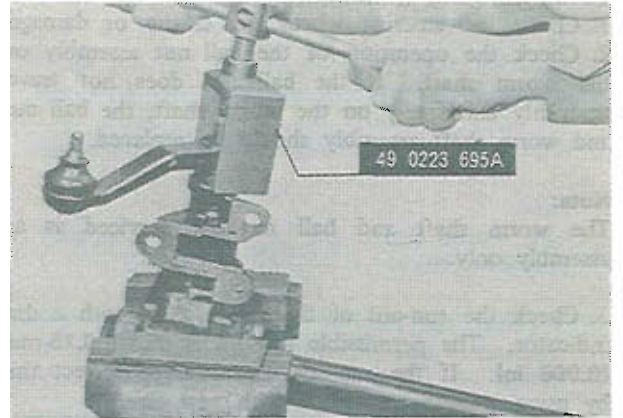

Fig. 10-5 Removing of pitman arm
2. Remove the nut attaching the pitman arm and remove the pitman arm with the **pitman arm puller** (Part No. 49 0223 695D), as shown in Fig. 10-5.